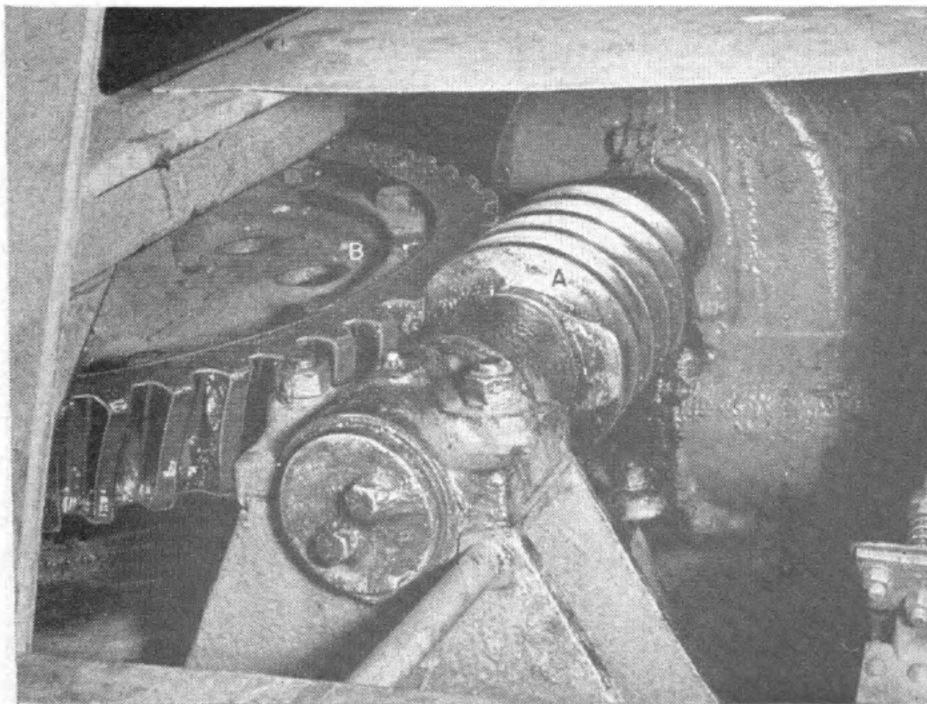

Figure 112.
4. Look at figure 112. (a) What is the name for this gear arrangement? (b) Worm A drives gear B. Worm A turns 1,200 rpm. Gear B has 60 teeth. How fast does gear B turn?